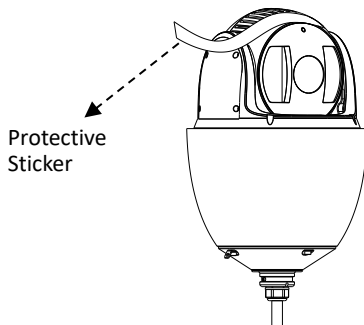

Figure 2-2 Protective Sticker
1. Remove the protective sticker as shown in Figure 2-2